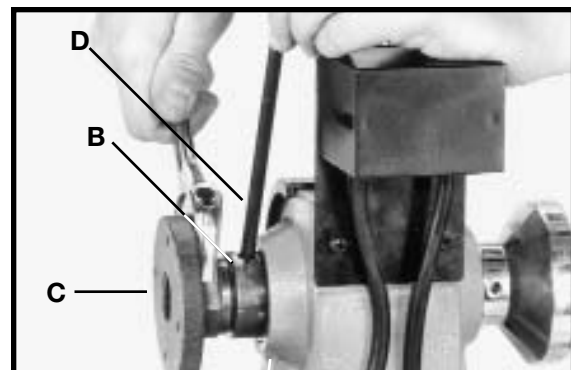

Fig. 15
3. Thread faceplate (C) Fig. 15, onto spindle (B). Insert knockout bar (D) into hole in spindle to keep it from turning, and tighten faceplate (C) with supplied wrench.